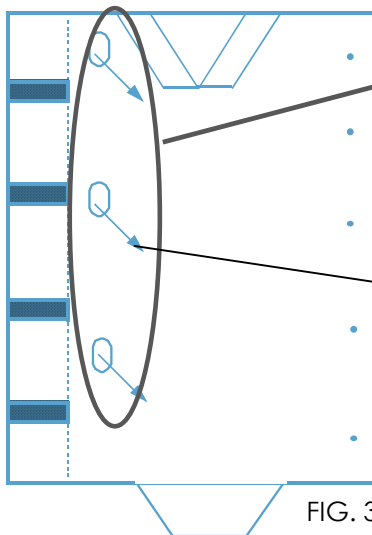

FIG. 3
3. Spread out the MN 7000 on a flat surface, as indicated in Figure 3.